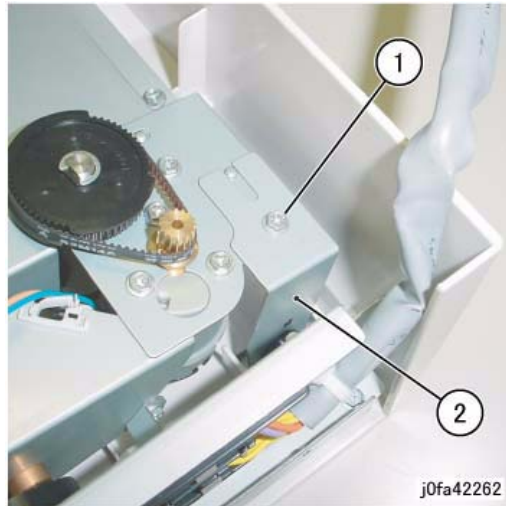

Figure 2 Removing the Bracket (j0fa42262)
6. Remove the Bracket. (Figure 2)